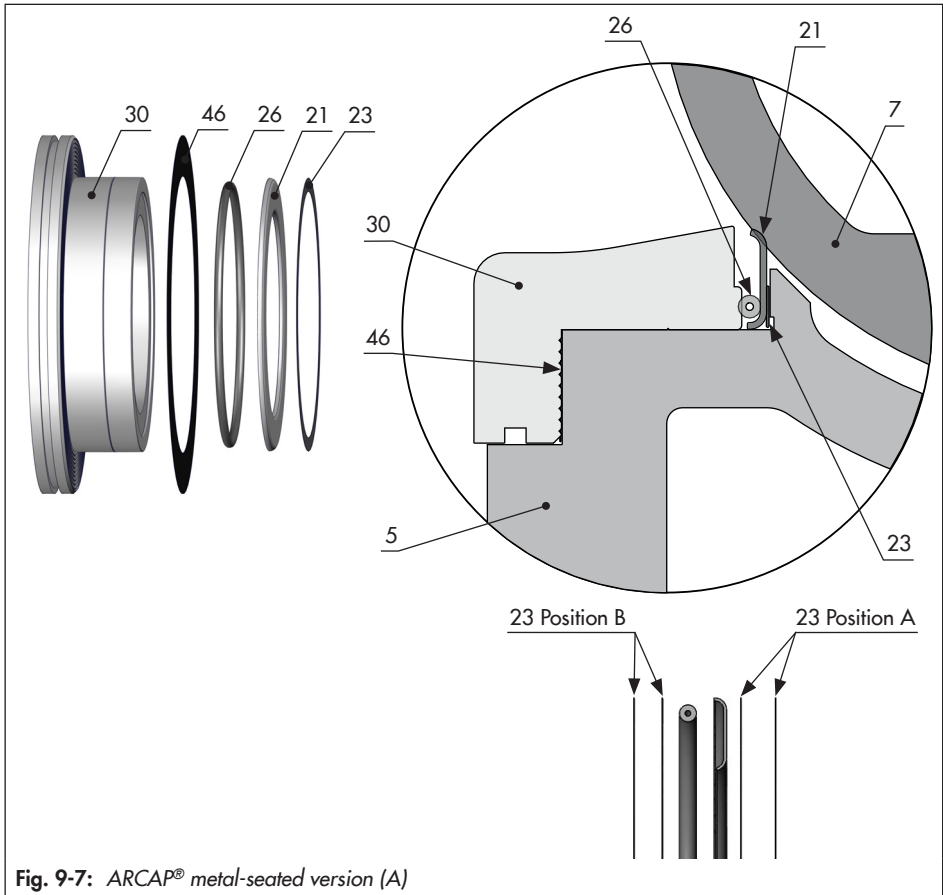

Fig. 9-7: ARCAP® metal-seated version (A)
See Fig. 9-7
5. Insert washer(s) (23) one after the other (see step 2).
The position of the washers (23) may vary between position A and B (see Fig. 9-7). The position depends on the leakage rate and initial breakaway torque (see information under b), "ARCAP® metal-seated version (A)" on page 9-12.
6. Insert a new seat (21) into the body. Make sure it is properly aligned (see Fig. 9-7).
7. Insert the metal O-ring (26).
8. Mount the retainer seal (46) on the retainer (30).
9. Insert the retainer (30) with retainer seal (46) into the valve body (see "Tip" on page 9-7) and fasten using retaining